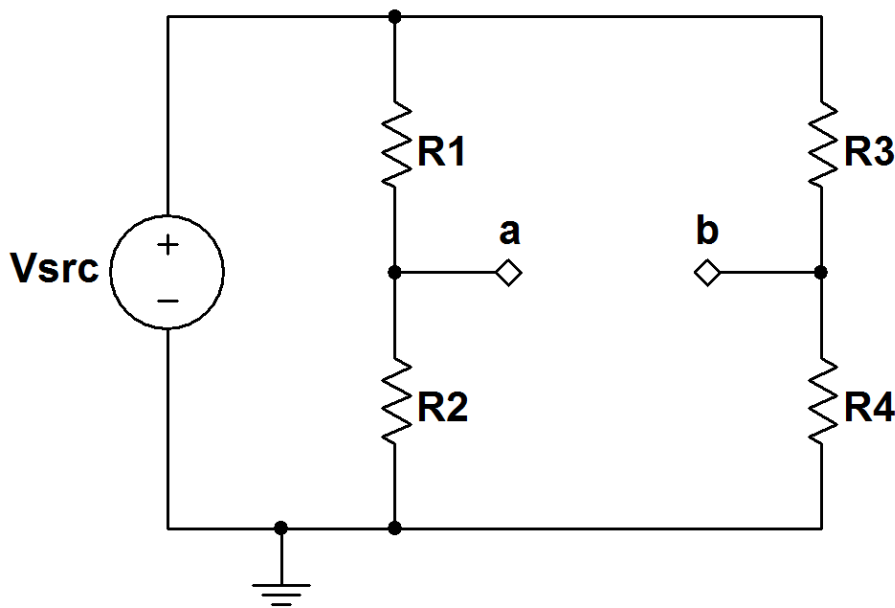

Figure 3.5: Circuit for Problem 3.4
1. Find the Thévenin equivalent of the circuit of Figure 3.5 at terminals (a,b) as seen by the load resistance R_L .
1. Enter the circuit of Figure 3.5 on the preceding page into NI Multisim. Connect a resistor R_L as a load between terminals (a, b) .
1. Build the circuit of Figure 3.5 on page 35. Calculate the Thévenin equivalent circuit from the measurements taken in the next two parts.